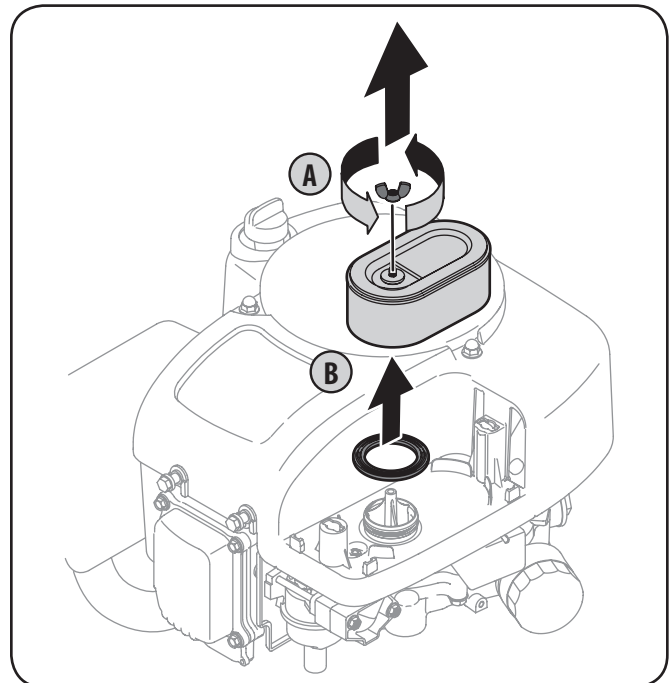

Figure 6-5
- b. Pull up and remove air filter and base seal. See Figure 6-5.